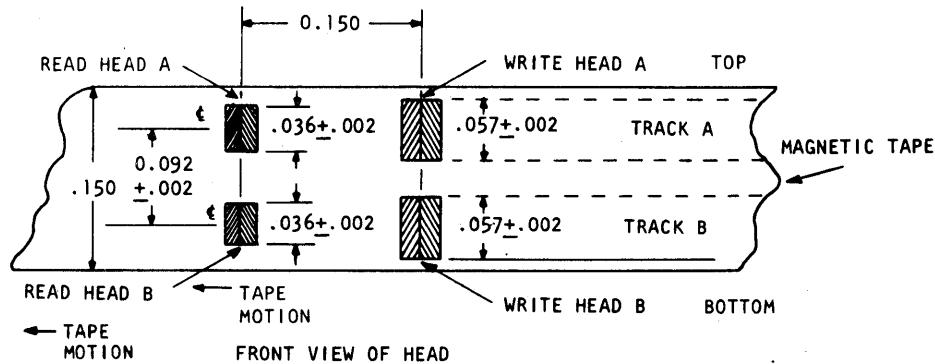

Figure 19. Read-While-Write Option
**Tape Head - Dual Gap Twin Track, Read-After-Write.** - The track configuration of this head is shown on Figure 19, Read-While-Write Option. This head has two gaps per track, so that the tape signal can be read concurrently with the writing process. This is especially valuable in applications where the same data is not readily repeated and it is required to verify that the data has been correctly written on the tape.